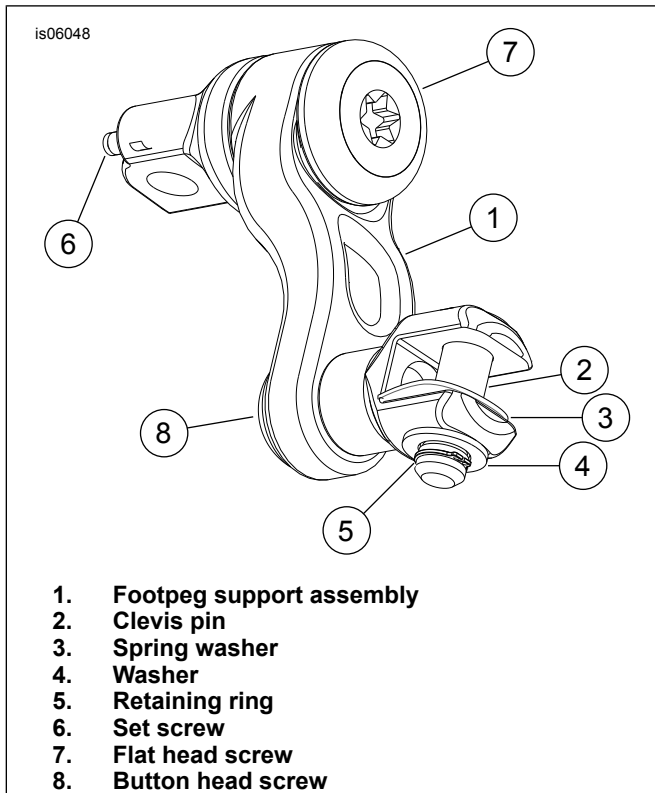

Figure 3. Adjustable Footpeg Support
5. Tighten screws (3) to 33.9–40.7 N·m (25–30 ft·lbs).
6. **Kit 50763-09:** See Figure 3. Install the adjustable clevis with the set screw (6) on the top to the footpeg support and secure it with the spring washer, screw and locknut previously removed.